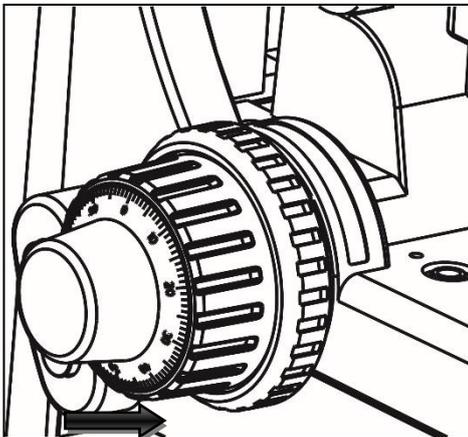
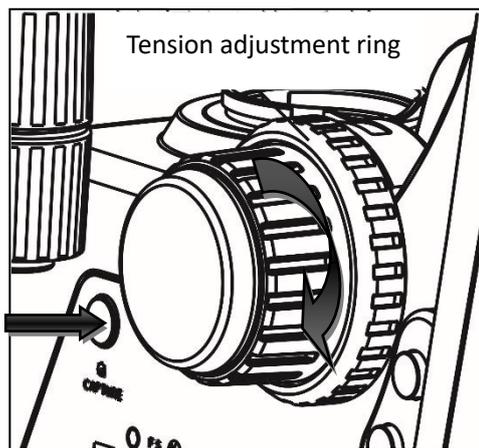

Fig.8
Fig.9
**3-7 Focusing (Fig.8, Fig.9)**
★ The fine focusing hand wheels on both sides are held by magnets for easy removal. All you need is the arrow shown in the Fig.9, Press one end of the hand wheel inward to make the other curl, then gently pull off the end of the cock, so hand-wheel is easily detached. Assembly also needs only hand wheel center alignment put in. This function makes the two fine-tuning hand wheels conveniently inter changeable, to avoid fine-tuning hand-wheel and platform handle collision.
**3-8 Adjust the tightness of the focusing hand-wheel (Fig.9)**
The rotation direction is shown in the Fig.9, the more rotation, the tighter the focusing hand-wheel is. On the contrary, the less rotation, the less tight the focusing hand-wheel is.